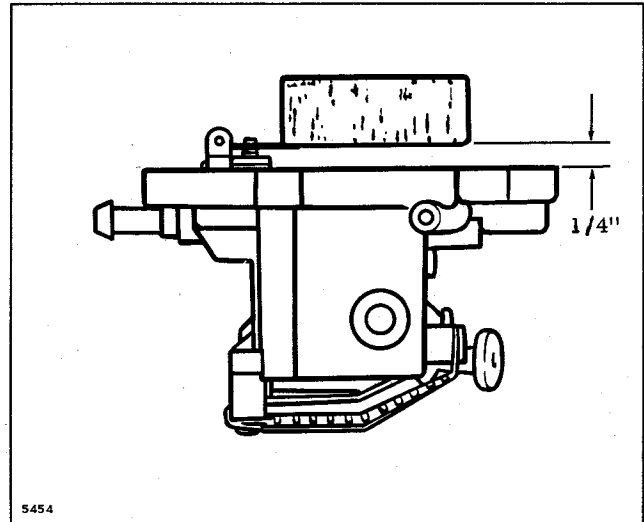

Figure 3-24. Float Level
b. Check for correct positioning of float. Turn carburetor cover upside down so weight of float closes needle. With float arm straight, float should be parallel with face of casting and approximately 1/4" from casting. See Figure 3-24.